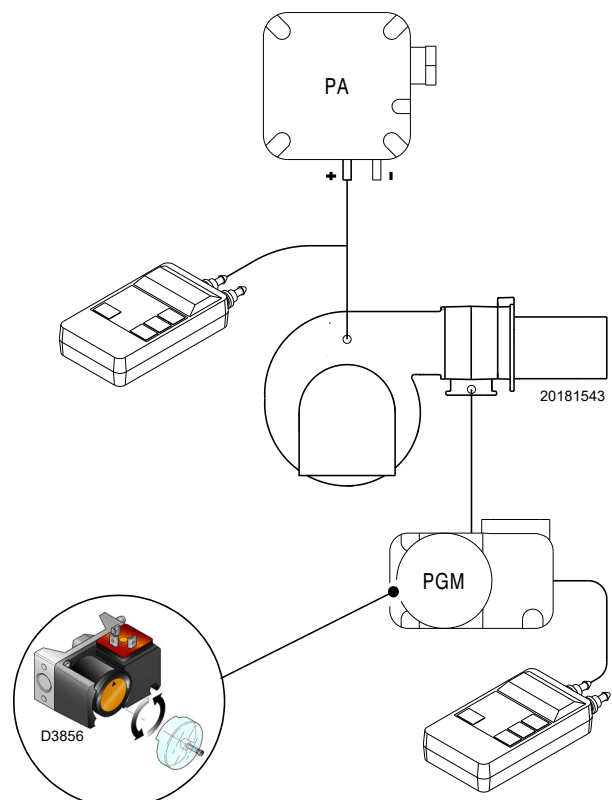

Fig. 35
- Adjust the maximum gas pressure switch (Fig. 35 at page 34) to the end of the scale.
Adjust the maximum gas pressure switch (Fig. 35) after making all other burner adjustments with the maximum gas pressure switch set to the end of the scale.